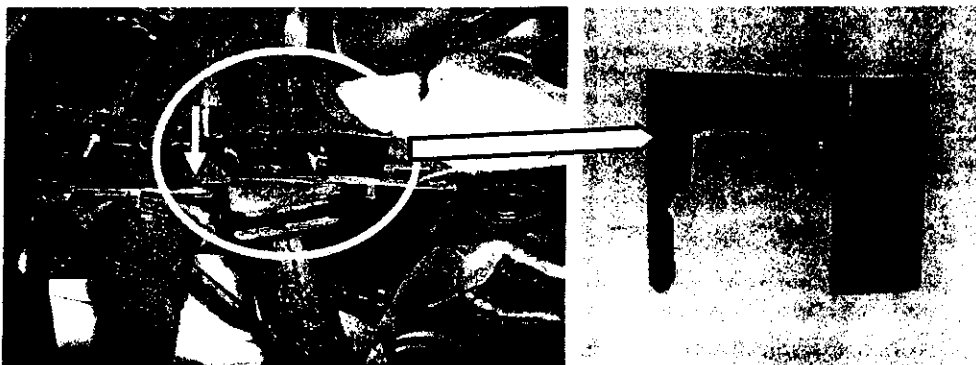

Figure 16: Mounting routing bracket
d. Mount SBC wiring harness with new routing bracket (Figure 16)
23. Mount bracket (A) of hose (Figure 16).